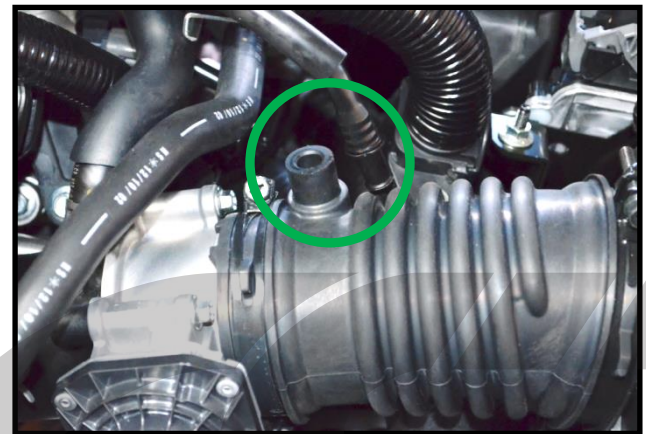

Figure 1c
c) **Remove valve cover hose** from intake elbow. It should pull out with a little effort (shown removed in Figure 1c).